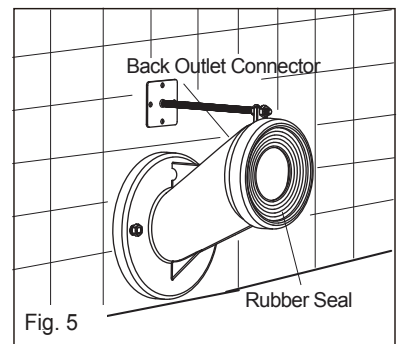

Fig. 5
3. Position back outlet connector (M-147380) onto 'T' bolts and secure onto foam gasket or wax ring with nuts as detailed in Fig. 5.
4. Position back outlet connector onto 'T' bolts and secure onto foam gasket or wax ring with nuts as detailed in Fig. 5.
5. Attach back plate onto the finished wall with the supplied plastic anchor and bolts or double sided tape as detailed in Fig. 5. Screw the steel rod onto the back plate, then snap it into the top opening of the back outlet connector. Secure the back outlet connector with the steel rod by using the supplied nuts and washer.